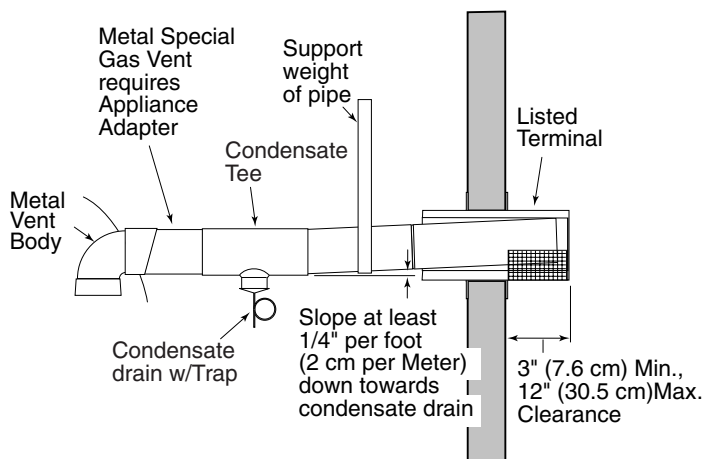

FIGURE 14: Typical Special Gas Vent Pipe Installation (Horizontal-Positive Pressure)
- at least 3" and at most 12" out from the wall (see Figure 14), following the vent manufacturer's instructions.